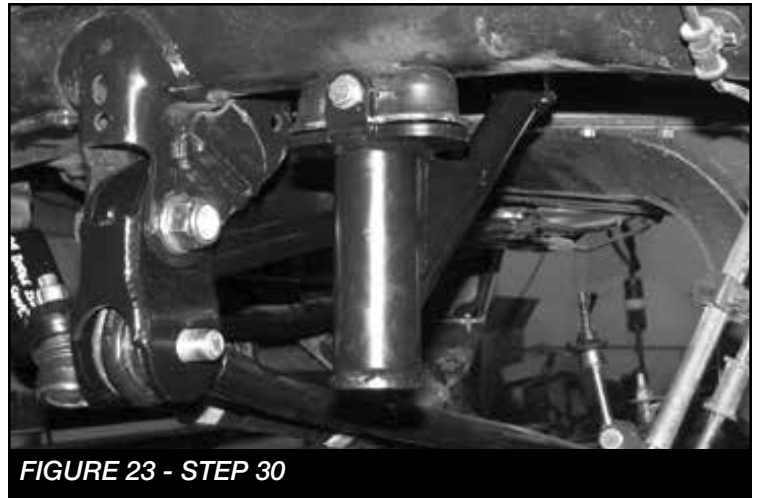

FIGURE 23 - STEP 30
30. Locate a 5/16"-18 x 2-1/2" bolt, nut and washers. Using this bolt, secure the bump stop to the factory bump stop mount and torque to 29 ft-lbs. **SEE FIGURE 23**